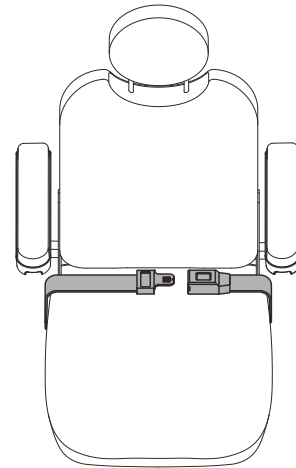

Figure 13. Positioning Belt Adjustment
Your power chair may be equipped with a positioning belt that can be adjusted for operator comfort. **See figure 13.** The positioning belt is designed to support the operator so that he/she does not slide down or forward in the seat. The positioning belt is not designed for use as a restraining device.
1. Once seated, insert the metal tab on one side of the belt into the plastic housing on the opposite side until you hear a click. **See figure 13.**